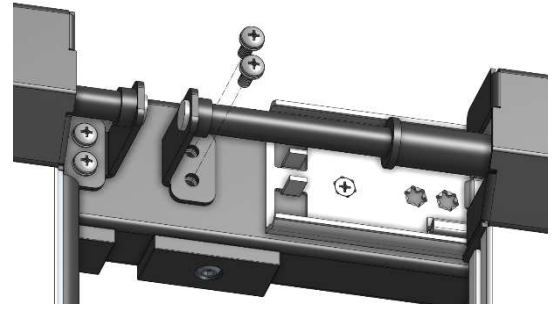

Figure 19. Attach the auto-close bracket to the header.
12. Re-attach the auto-close cylinder bracket to the header using the #10-24 screws and nuts. Ensure the bracket aligns the auto-close cylinder with the line of travel (see *Figure 19*). NOTE: Failure to align the auto-close cylinder properly may result in binding or damaging the cylinder.